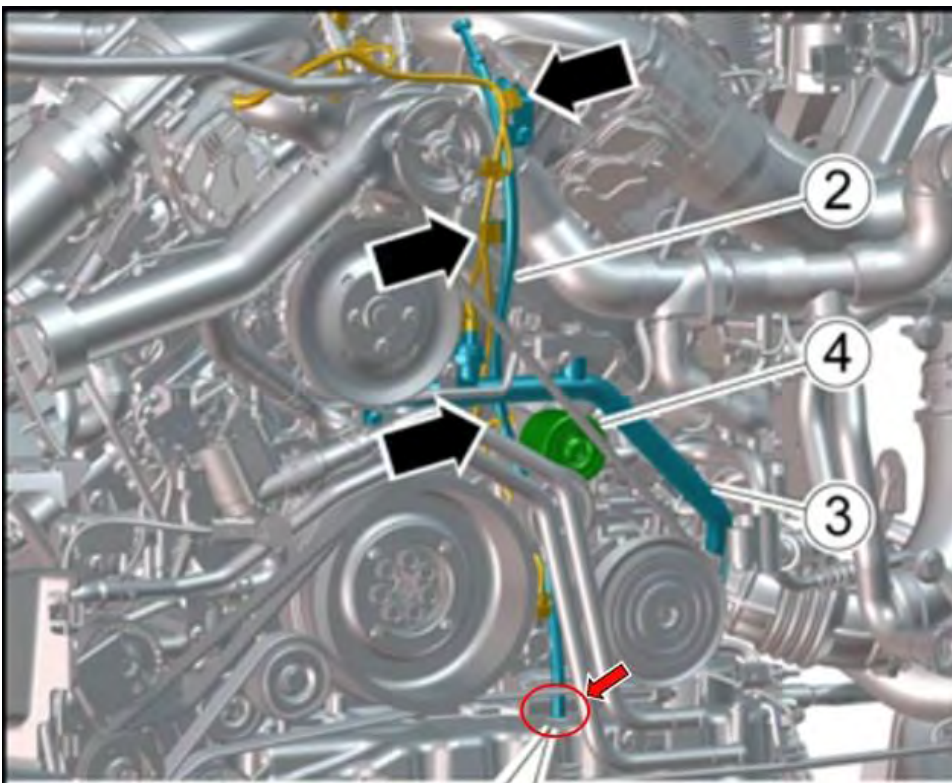

Figure 3
2. Check the dipstick tube for signs of an oil leak in area highlighted in Figure 3. Should a leak be evident, remove the dipstick tube and check the O-ring for damage.